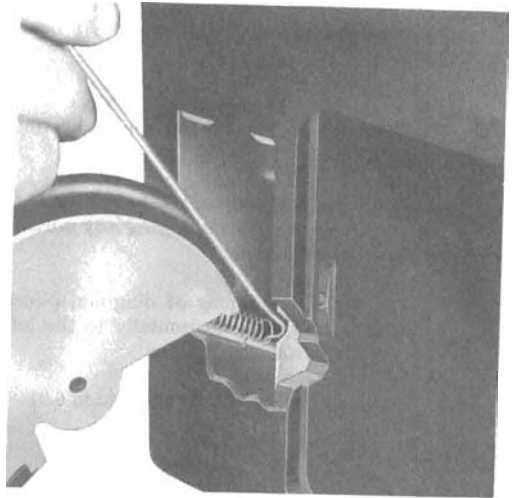
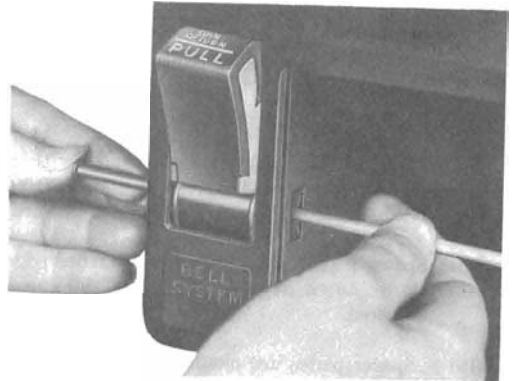

Fig. 51—Attaching Springs in Return Chute
Fig. 52—Inserting Shaft in Housing
- (3) Use TP-75503 spring hook to engage springs on crossbar in coin chute (Fig. 51).
- (4) Insert and hold pull bucket in normal position.
- (5) Use orange stick or equivalent to line up holes in pull bucket and housing.
(6) Insert P-27E462 stainless steel shaft in housing and force fit using hammer and drive punch (Fig. 52).